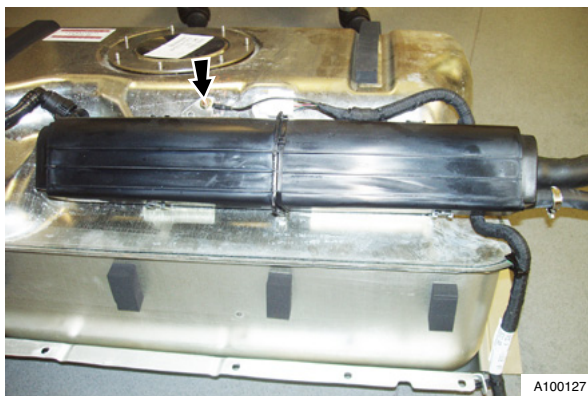

Fig. 8
19. Remove nut (x1) fuel tank harness earth (see Fig. 8).